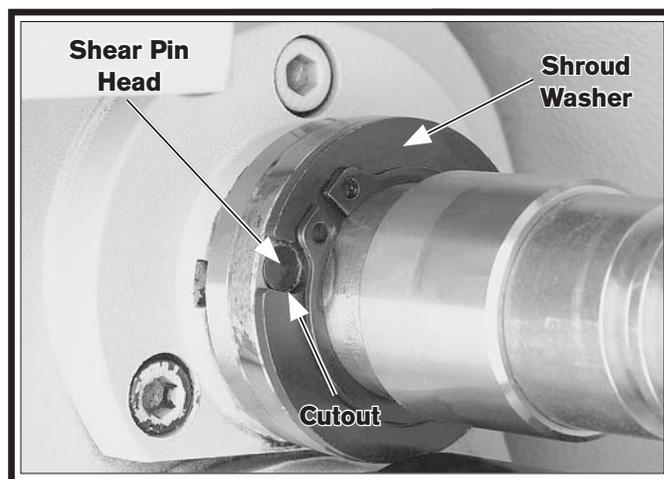

Figure 133. Shroud washer and shear pin alignment.
3. Rotate the shroud washer on the leadscrew (see **Figure 133**) so that the cutout lines up with the shear pin head.